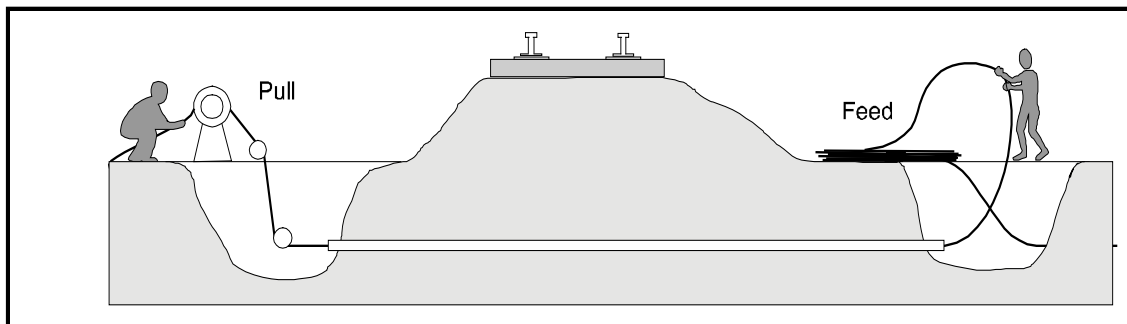

Figure 5 – Using a Figure-eight Machine
- 6.16** An alternative to manually figure-eighting the cable off the reel before continuing the pull, is to use a figure-eight machine shown in Figure 5 below. Instead of pulling the cable from the reel and laying it on the ground, the cable is looped over the barrel of the figure-eight machine. Guided by a revolving arm and a series of rollers, the cable can be rapidly removed from the reel as it is wound around the machine's drum.